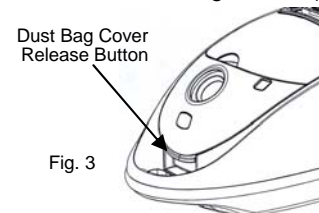

Fig. 3
2. Depress the dust bag cover release button and open the dust bag cover. (Fig. 3)